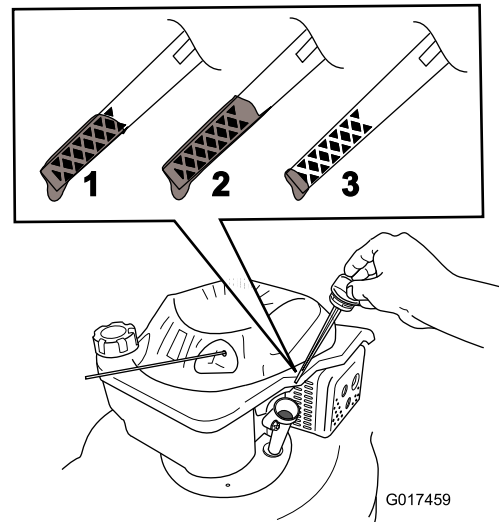

Figure 38
8. Remove the dipstick and read the oil level on the dipstick (Figure 38).